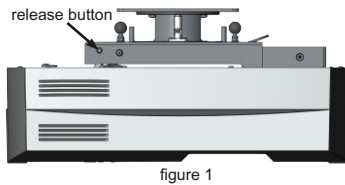
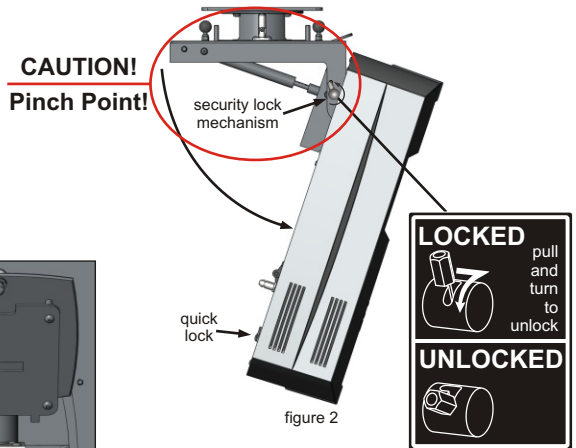

figure 1
figure 2
2. Press the release button and swing the unit downwards. (see figure 1 and figure 2)
3. Release the quick lock by turning and lift up the lid. (see figure 2)
5. To swing the unit up, release the security lock mechanism, by pulling and turning counterclockwise. (see figure 2)